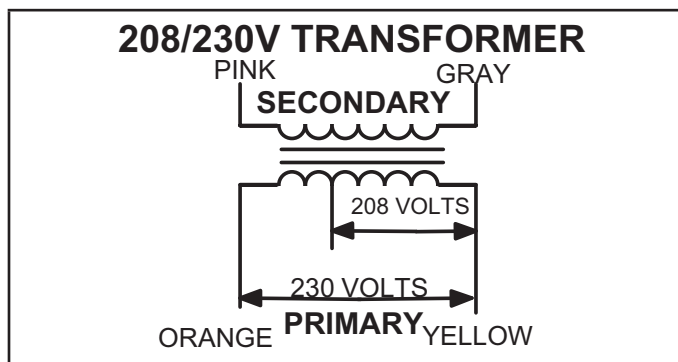

FIGURE 3
All use a single line voltage to 24VAC transformer mounted in the control box. Transformer supplies power to control circuits in the unit. The transformer is rated at 70VA and is protected by a 3.5 amp circuit breaker (CB8). The 208/230 (Y) voltage transformers use two primary voltage taps as shown in figure 3, while 460 (G) and 575 (J) voltage transformers use a single primary voltage tap.